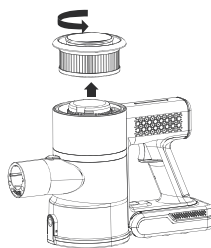

Fig 3.
Fit the accessory on the main body's air inlet and/or on the tube until it clicks into the position. Fig 3. The 2 in 1 brush is good for cleaning stairs, corners, and hard-reach areas.
4. Rotate the filter cap at anticlockwise direction to remove the cap and lift the outlet HEPA filter upwards to remove the fitter; put the filter back at counter way after cleaning, Fig. 3.